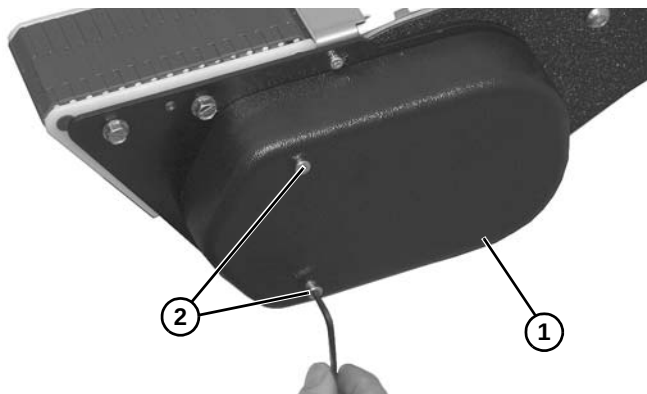

Figure 126
- On drive end, route and install belt (Figure 126, item 1) as shown. Press down on tensioner (Figure 126, item 2) and tighten two hex head screws (Figure 126, item 3)
11. Install cover (**Figure 126, item 1**) with two hex head screws (**Figure 126, item 2**).